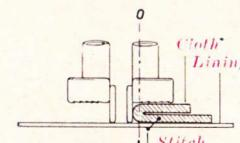

fig. 27
13) Fold the cloth again at any point desired in comparison to the first seam while taking care always not to break the thread; making sure, if necessary, that it is sufficiently loose. The new folded edge of the cloth must be close to the right hand plate of the foot. (See Fig. 27).